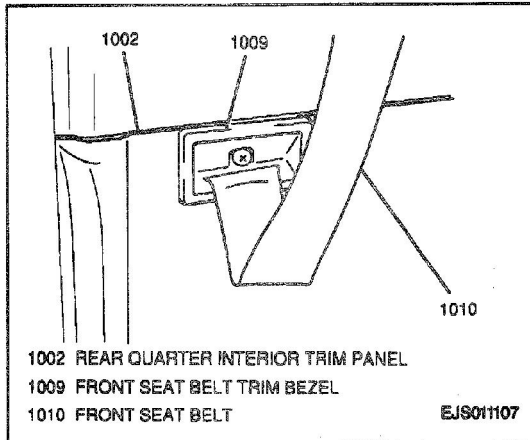

Figure 2—Front Seat Belt Trim Bezel—Two - Door Models
Figures 2 and 3
- One screw from front seat belt trim bezel (Figure 2).